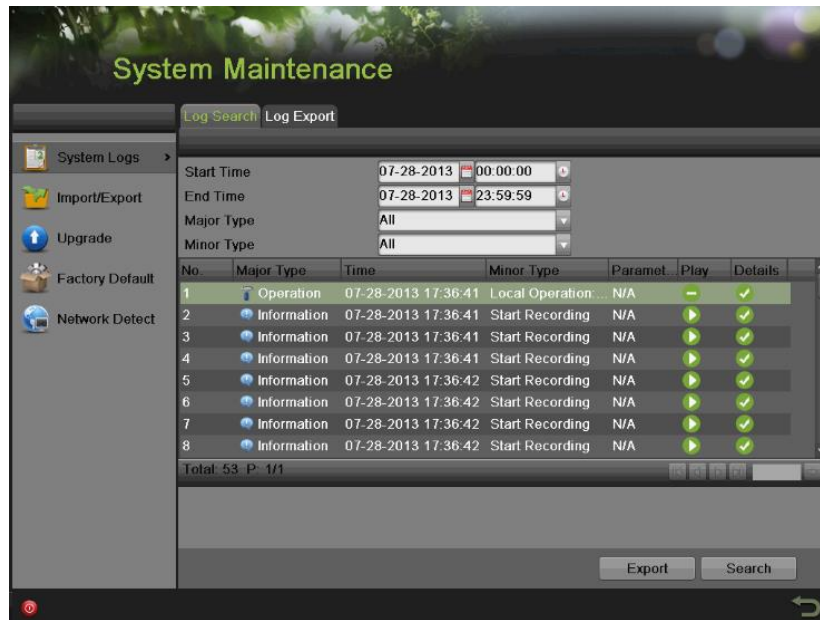

Figure 167 Log Search Results
1. Click the Search button. The search results will be displayed in a list (Figure 167). Click  to page up and down.